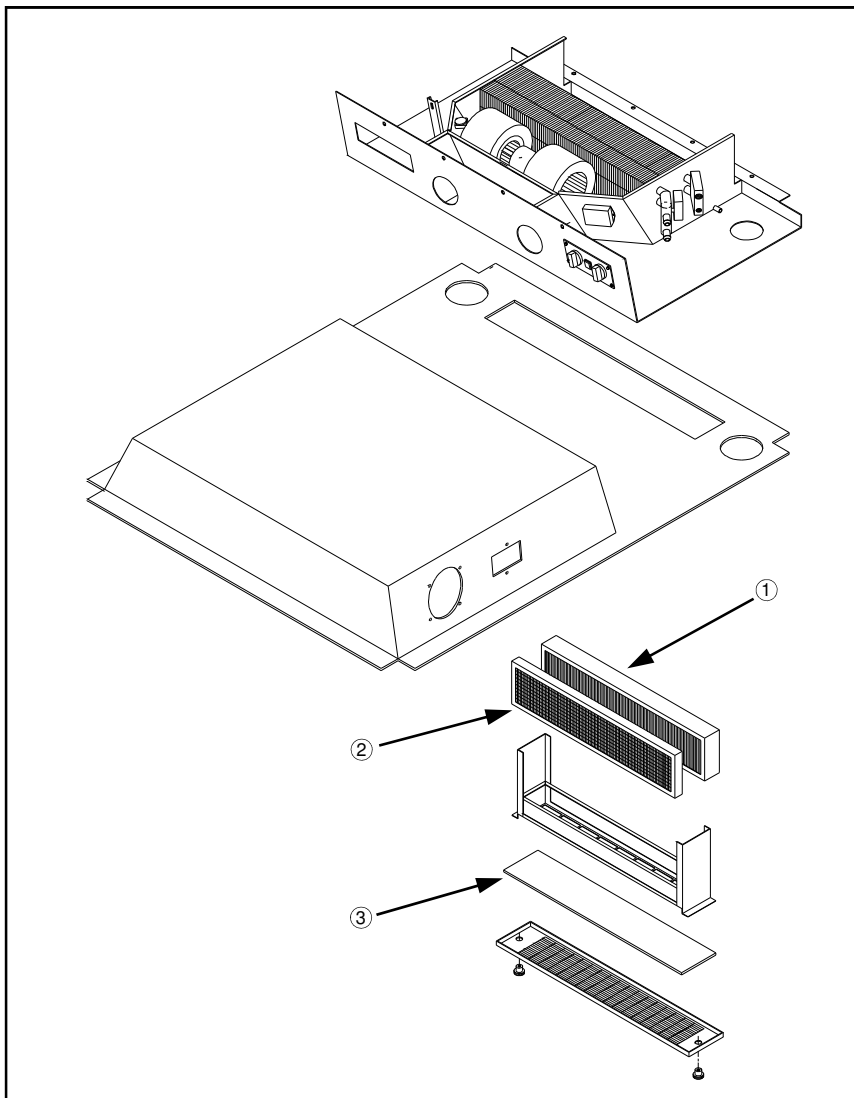

FIG 7.28
PAPER FILTER - (fig. 7.28, item 1) The paper filter should be cleaned once a year, or more often if necessary. Remove the paper element and gently tap it against a flat surface. Direct low pressure compressed air through the filter to remove larger particles. Replace the paper filter if necessary.
CHARCOAL FILTER - (fig. 7.28, item 2) Remove and replace at the first sign of chemical odor entering the cab.